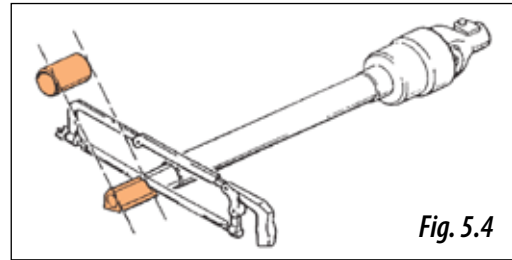

Fig. 5.4
- 3- Cut the plastic and metal surplus parts with the same size and reassembly the transmission (Fig. 5.4).